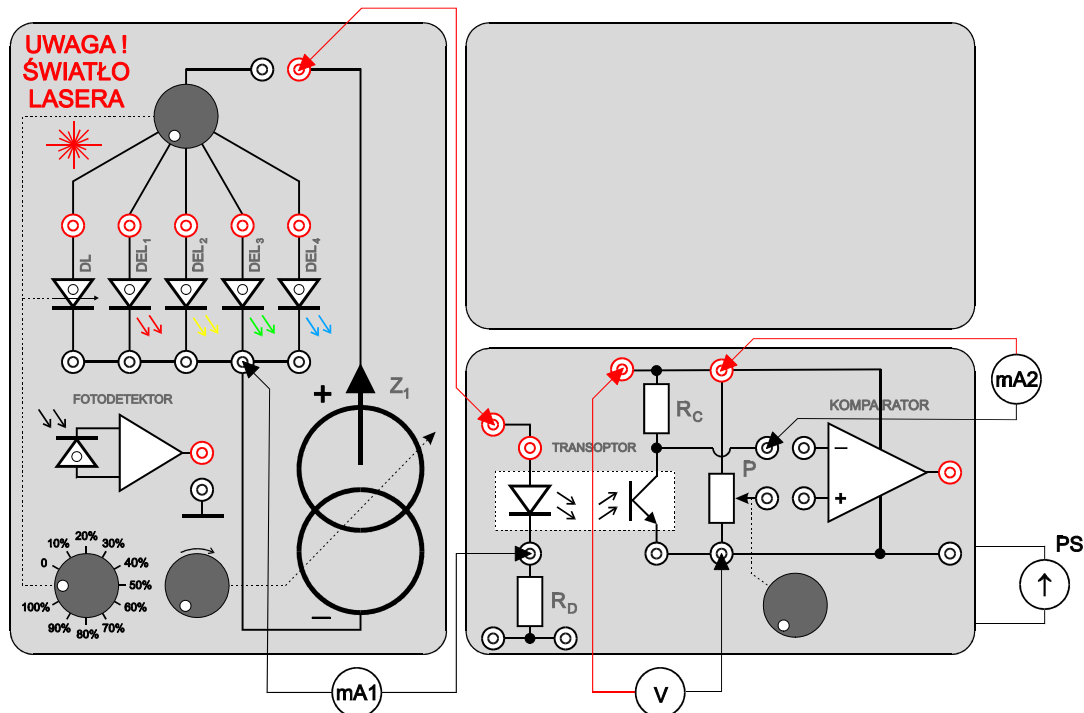

Fig. 3. Setup for determination of transfer characteristic of a photocoupler.
- Connect the circuit shown in Fig. 3. Set the DMM milliammeters (mA1) and (mA2) to 200 mA DC range and the voltmeter (V) to 20V DC range.